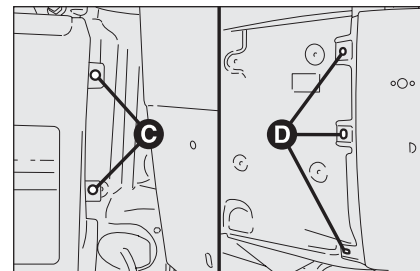

fig. 30c
- ☐ unscrew both fastenings **C** on the rear side-hinged door side and open the door slightly fig. 30c;
- ☐ unscrew the three side fastenings **D** on the side panel side, which are accessible after removing the side moulding fig. 30c. To remove the moulding, unscrew the three lower self-tapping bolts and carefully remove the spring clips to avoid breaking them. If one or more spring clips break, they must be replaced;